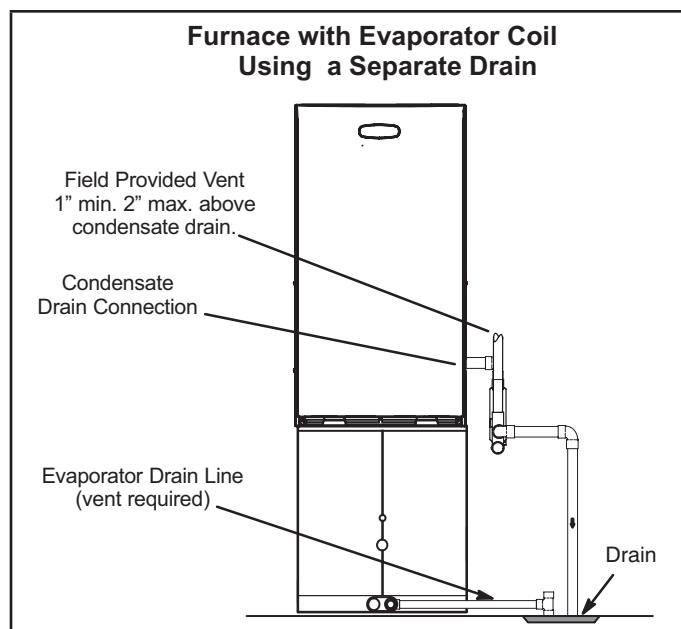
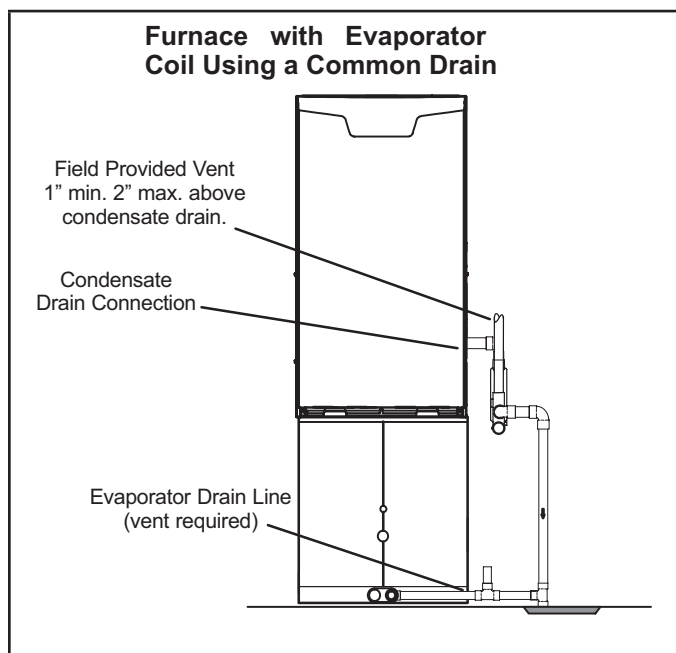

FIGURE 46
FIGURE 47
- 5 - FIGURE 46 shows the furnace and evaporator coil using a separate drain. If necessary, the condensate line from the furnace and evaporator coil can drain together. See FIGURE 47 and FIGURE 48. The field provided vent must be a minimum 1" to a maximum 2" length above the condensate drain outlet connection.